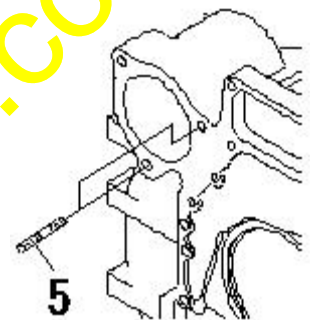

Fig. 6
- 1) Remove the bolts (1), gaskets (2 and 3) and the spacer (4).
(3) Modification of the mounting section of the starting motor and reinstallation of the modified starting motor (Fig. 6, Fig. 7, Fig. 8 and Table 4)